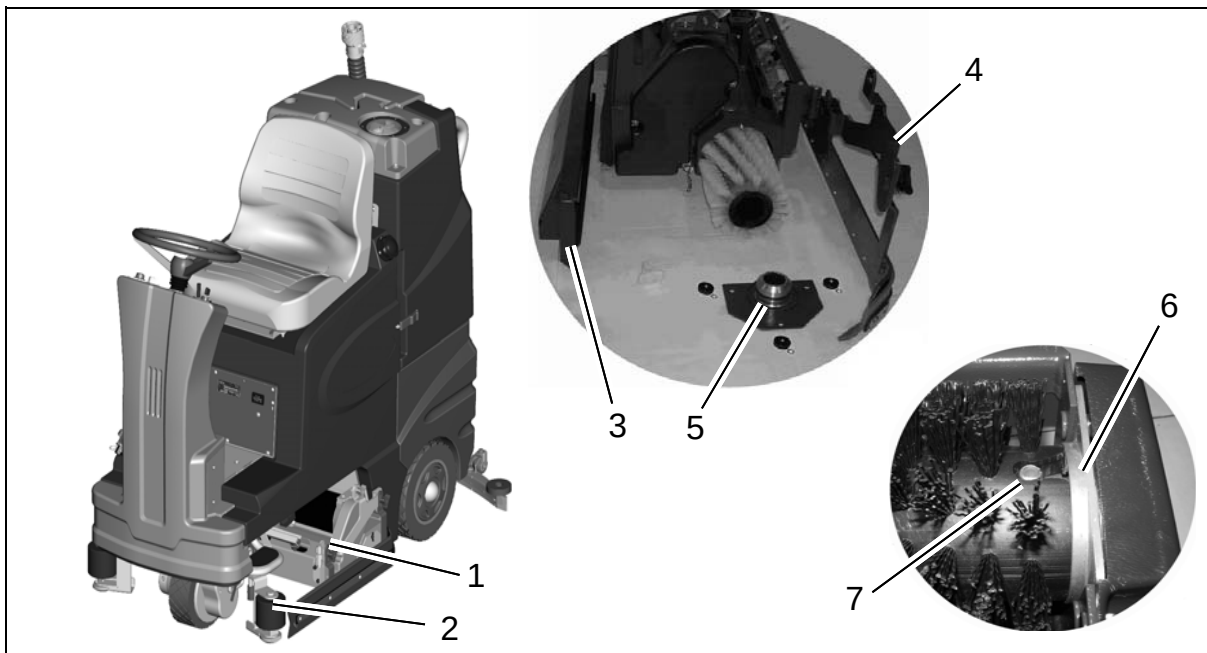

Fig.16
Clean dirt hopper (Fig. 16/3) at daily intervals or as required.
1. Remove the yellow star shaped knob and swing the side squeegee bracket (Fig. 16/4) along the hinge.
2. Release brush hub (Fig. 16/5) by removing the three thumbnuts.
1. Insert brush into brush deck and rotate until it catches on the drive hub (notched end must face inward) (Fig. 16/6&7).
Check roller bumpers (Fig. 16/2) at weekly intervals and replace if required.